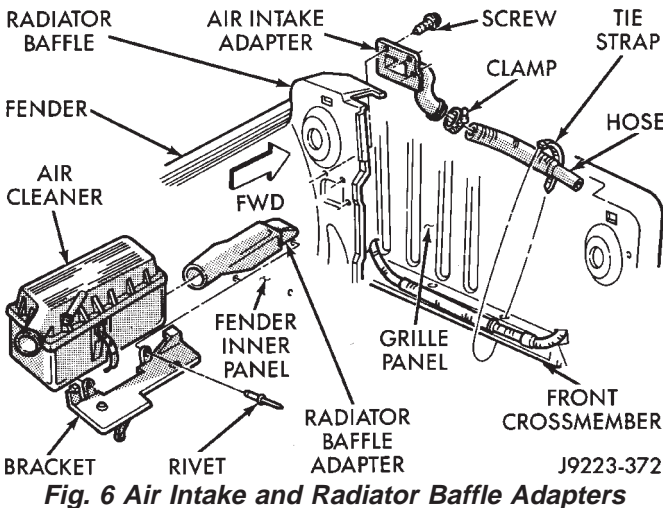

Fig. 6 Air Intake and Radiator Baffle Adapters
(5) Remove the retaining screws and the air intake adapters from the grille panel (Fig. 6).
(6) Install the air intake adapters on the grille panel (Fig. 6). Tighten the retaining screws to 3 N·m (25 in-lbs) torque.